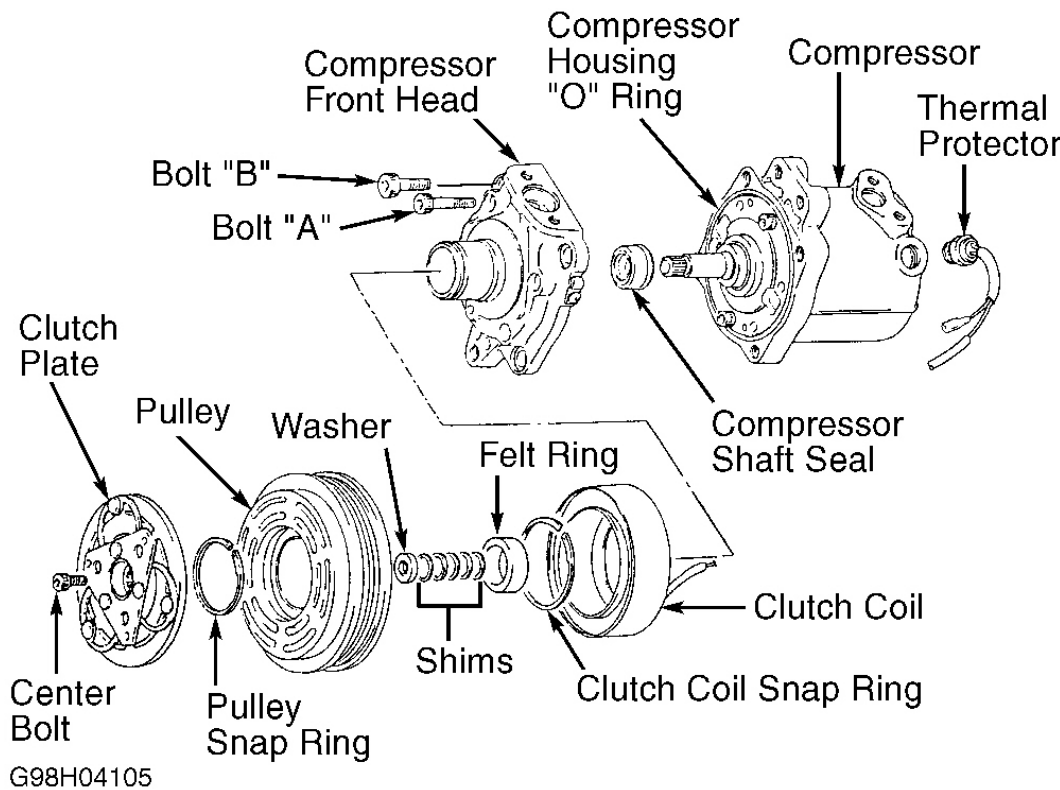

Fig. 14: Exploded View Of Compressor (Seiko-Seiki Rotary Vane)
1. Remove compressor shaft bolt and washer, while holding clutch plate with Clutch Holder (09991-06020). Remove clutch plate using Clutch Plate Remover (09991-06030). Remove shim(s) and felt ring. See **Fig. 14**.
1. To install, reverse removal procedure. Align lug on clutch coil with hole in front housing of compressor. Install snap ring with chamfered side facing out. Connect clutch coil lead to compressor housing. Install felt ring and shim(s). See **Fig. 14**.
Remove clutch plate, pulley and clutch coil. See **CLUTCH COIL** . Remove 8 compressor front head bolts. Push on compressor shaft while pulling on front head, using care not to remove cylinder from compressor housing. Remove compressor shaft seal from front head. See **Fig. 14** .
2. Install compressor housing "O" ring to compressor housing. Align compressor front head with compressor housing and install. Tighten front head bolts "A" first and then front head bolts "B" in a crisscross pattern. See **Fig. 14** . Tighten bolts "A" to 10 ft. lbs. (13 N.m) and bolts "B" to 17 ft. lbs. (23 N.m). Remove shaft seal protector. To complete installation, reverse removal procedure.